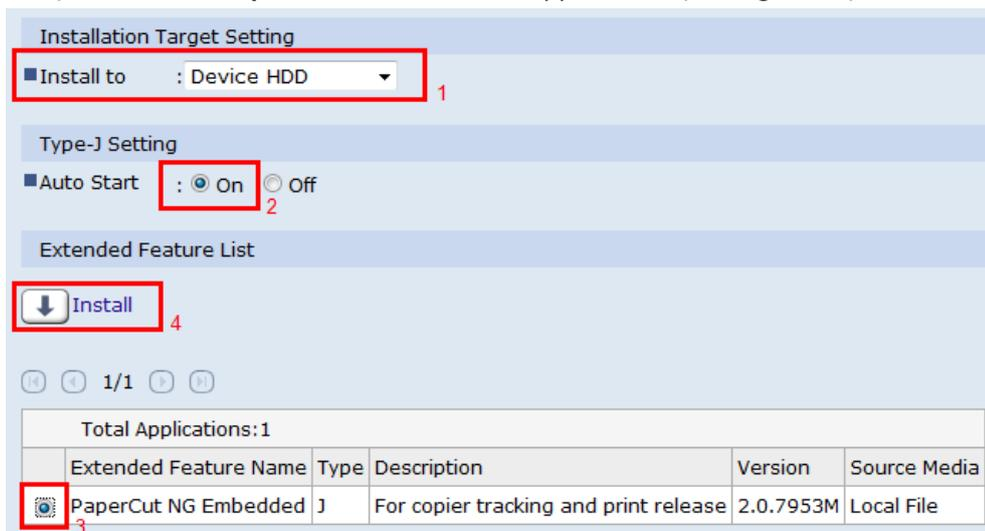

Figure 43: Installing the application.
4. Change the install location to **Device HDD**, set **Auto Start** to **On** (but don't click **Install**), then select **PaperCut** in the table of applications (see Figure 43).